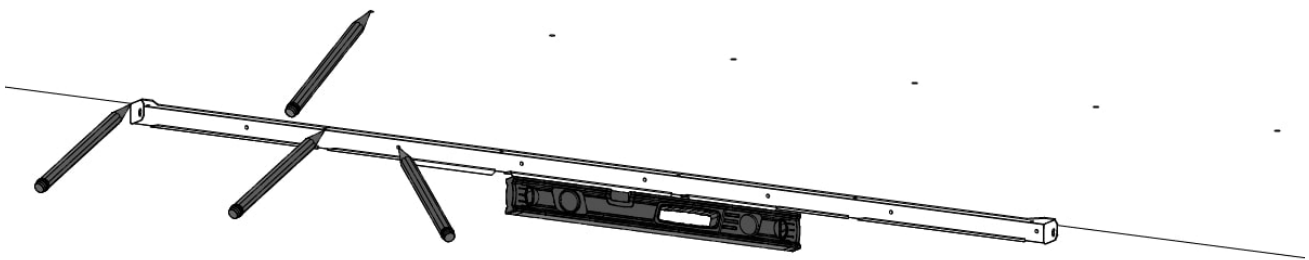
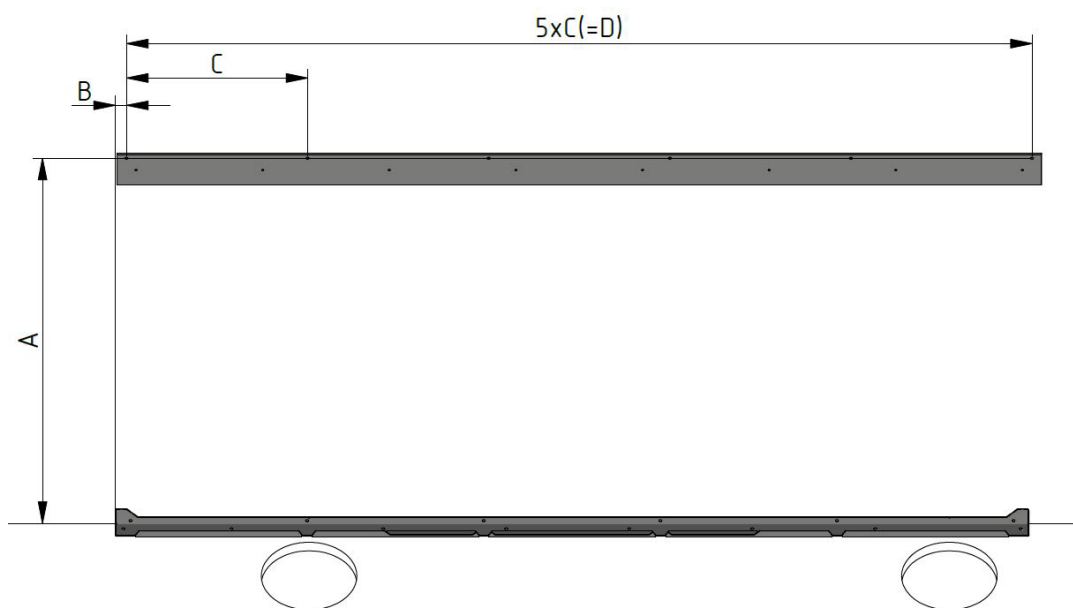

Figure 8: Mark drill holes for the rear and front brackets
Figure 9: Distances from rear bracket to front bracket
1. Hold the rear bracket against the wall and ceiling. Make sure the bracket is level. See Figure 8.
3. Mark the holes for the front bracket, see Figure 8, Figure 9 and Table 5.